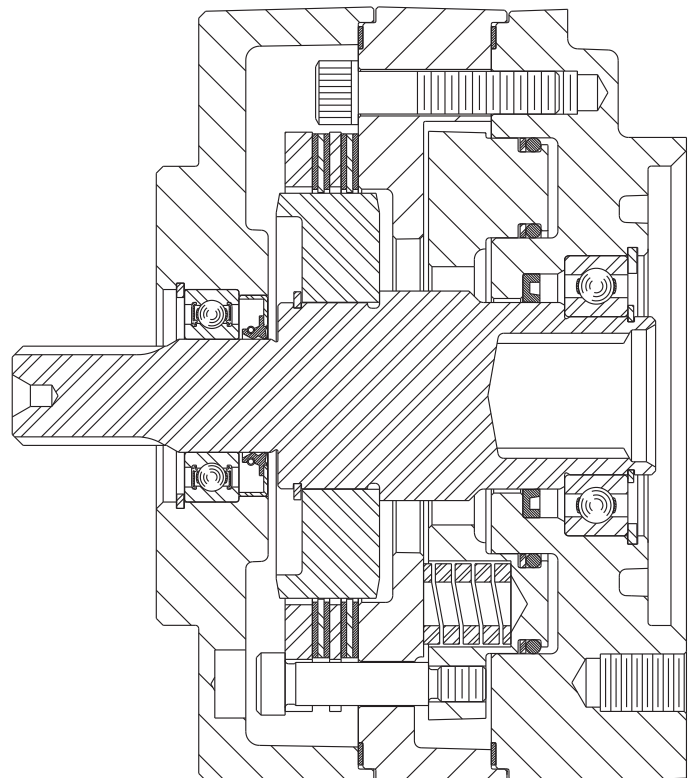

FIGURE 2
2. Press oil seal (21) into pressure plate bore. Seal lip must be facing motor side of pressure plate (20). See Figure 2.
3. Press bearing (22) into position until it bottoms out on oil seal borestep.
4. Install retaining ring (23) into pressure plate (20).
5. Install back-up rings (16 & 18) on piston (15) toward spring pockets.
6. Install o-rings (17 & 19) on piston (15). Be sure o-rings are flat and all twists removed. **NOTE: Be careful not to scratch or mar piston.**
7. Lubricate piston (15) with clean type fluid used in the system. Carefully press piston into pressure plate (20). Be sure piston (15) is oriented so threaded holes in piston are in alignment with through holes in spring plate (14) when installed.
8. Install springs (13) according to pattern and color noted during disassembly. Different colored springs must be alternated. Contact MICO if you have questions regarding spring pattern.
9. Affix case gaskets (12) to pressure plate (20) and spring plate (13).
10. Place unit on a press. Using fixture, depress and install four socket head assembly bolts (11). Torque bolts 47.5-54.2 N·m (35-40 lb-ft). A suitable holding fixture is useful to hold brake in position. **NOTE: Apply two drops of Loctite #242 to threads of bolts (11).**
11. Press spline shaft assembly (6) into bearing (22) until the shaft bottoms on shaft shoulder. Bearing inner race must be supported during this operation.
12. Install retaining ring (24) on spline shaft assembly (6).